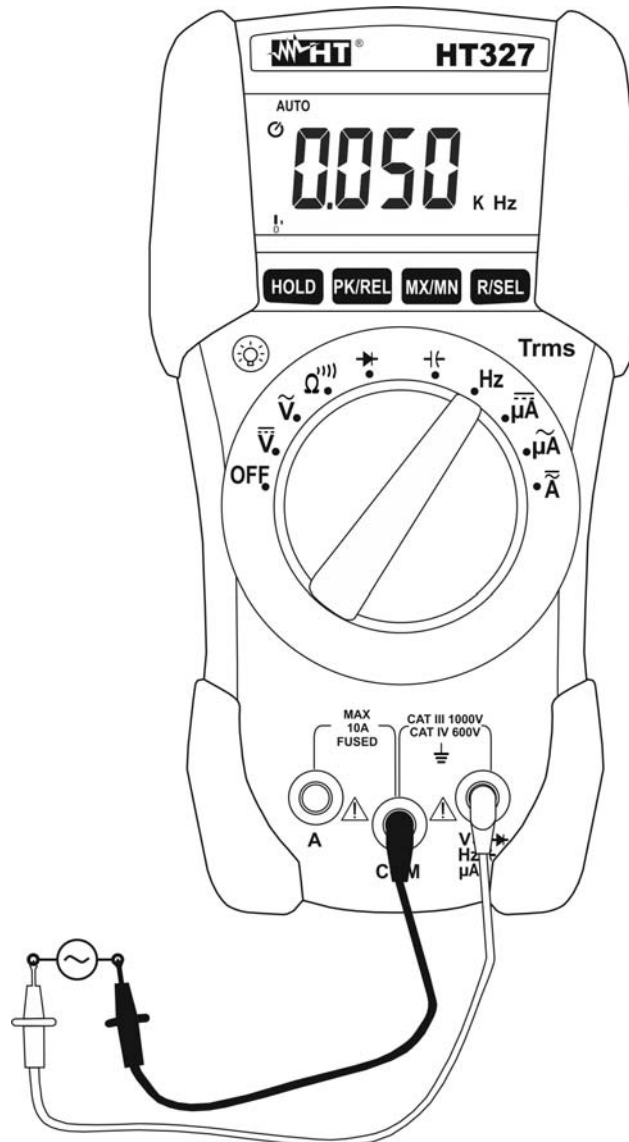

Fig. 9: Using the instrument for Frequency measurement
3. Connect the test leads to the circuit under test (see Fig. 9). The frequency value will be displayed.